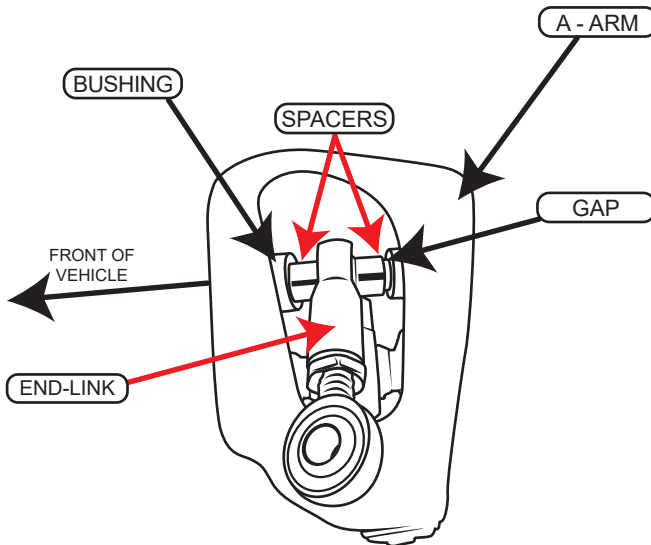
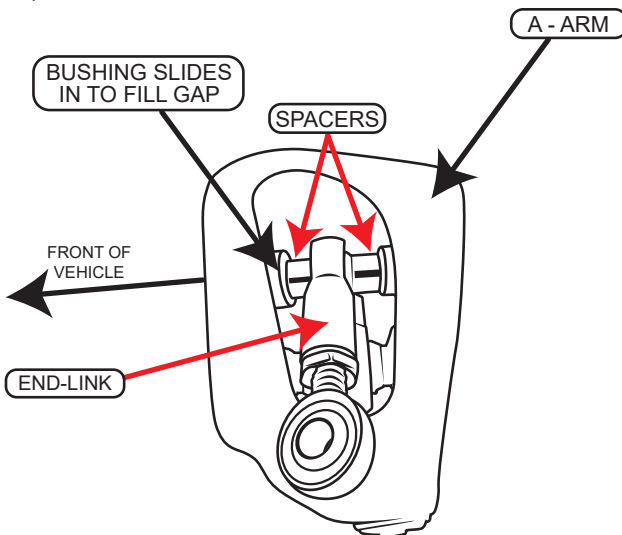

Figure 1 - Installing the End-Link and Spacers
Figure 3 - Bushing Sliding to Fill Gap
- a. Ensuring there is a spacer on each side of the upper rod-end, slide the screw, saved in Step 1, through the suspension arm, spacers and rod-end, shown in Figure 1.
- b. Once in place, there may be a gap between the spacers and the control arm mounting ears, as shown in Figure 1. Simply continue to torque the upper end-link screw in the control arm until the gap is filled, shown in Figure 3. Torque to a maximum of 35 lb-ft (47 N·m).